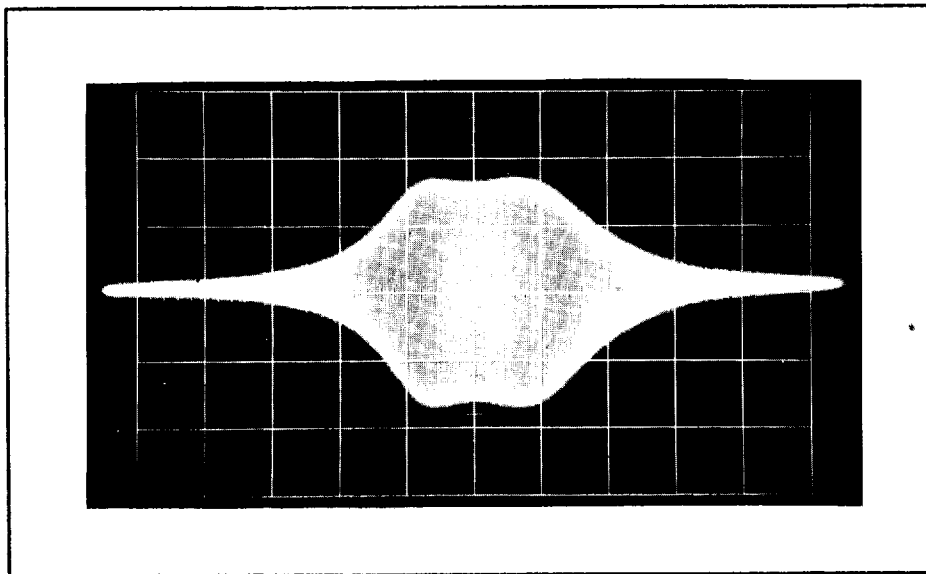

FIGURE 4.1 N CHANNEL IF AMPLIFIER BANDPASS WAVEFORM; A5U2 PIN 5 (.5V/DIV VERTICAL), A2TP1 (ACTO SWEEP HORIZONTAL).
- 11) Adjust A5L3 and A5L4 for the waveform shown in Figure 4.1. Very minor adjustment should be required.